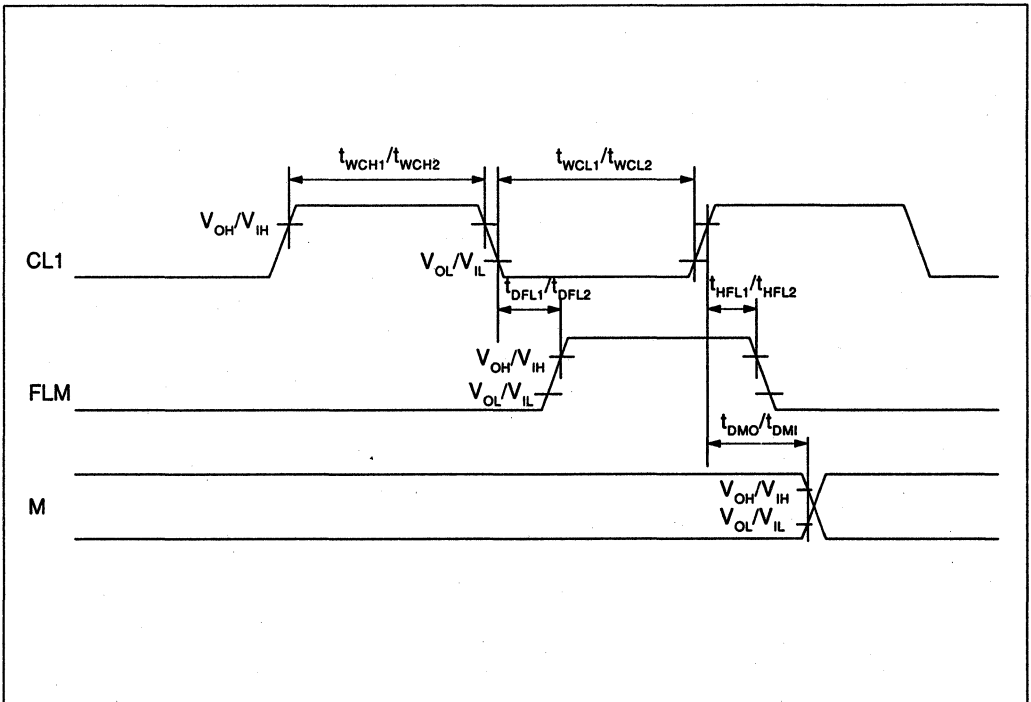

Figure 38 LCD Interface Timing
2. LCD Interface Timing (figure 38)